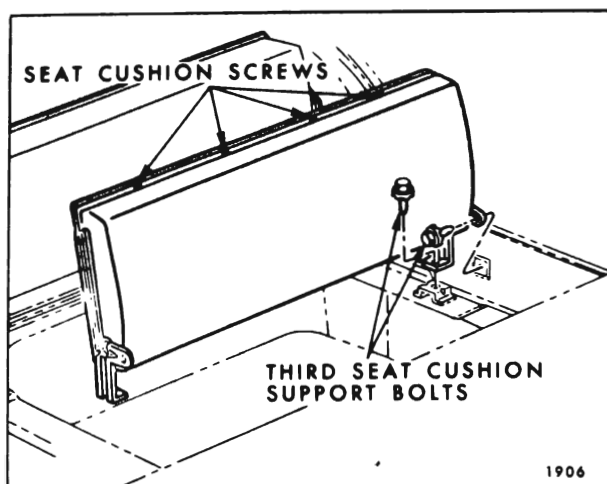

Fig. 15-52—Folding Third Seat Cushion
1. Lift third seat cushion to a half raised position or approximately vertical to floor pan (Fig. 15-52).
2. Remove four seat cushion screws from rearward edge of cushion (Fig. 15-52).
1. Lift third seat cushion to a half raised position or approximately vertical to floor pan. (See Fig. 15-52).
2. Remove two bolts at each side of seat securing supports to body (Fig. 15-52); then, remove seat cushion, panel assembly and supports from body and place on a clean protected surface.